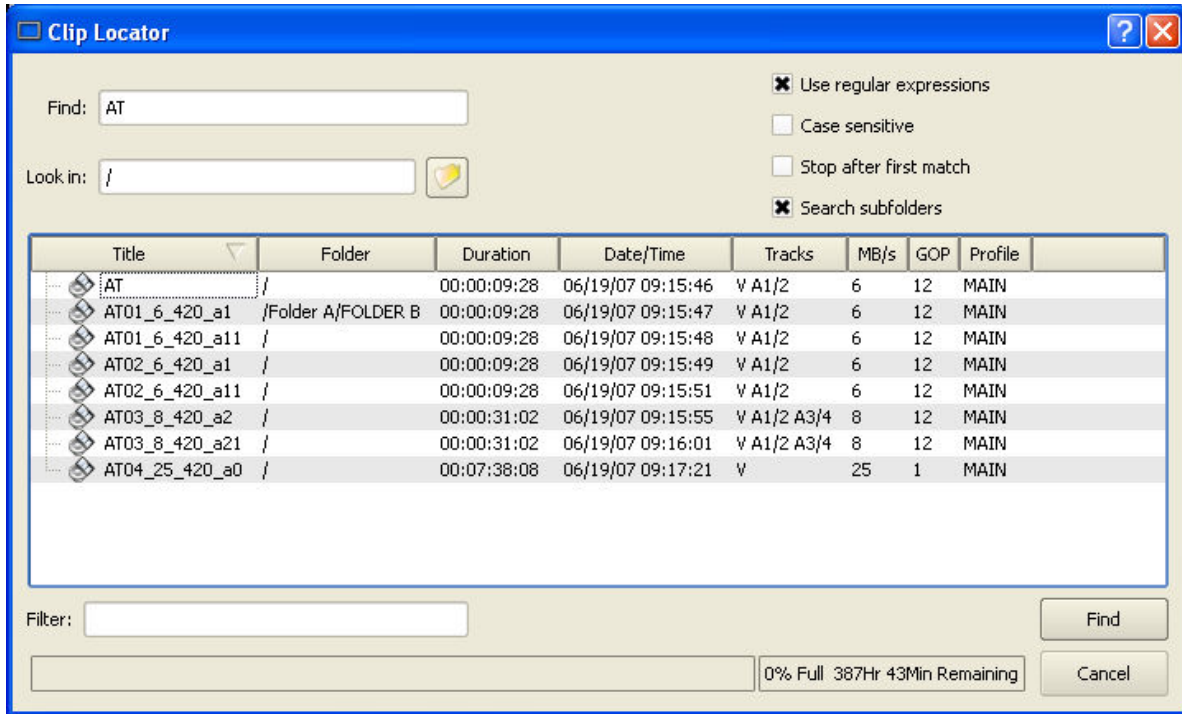

Figure 23 - Clip Locator
- A. Click **SHOW->FIND CLIPS** . The Clip Locator screen of Figure 23 appears.